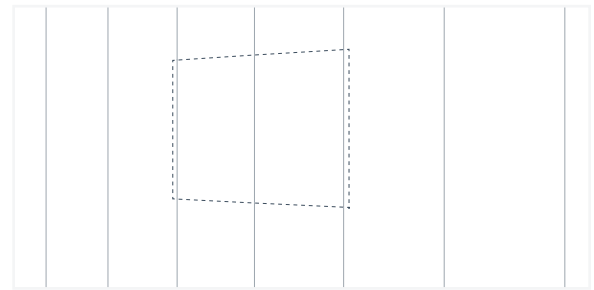

Fig. 59
2. Measure and mark where the mounting points are located. (Fig. 59)